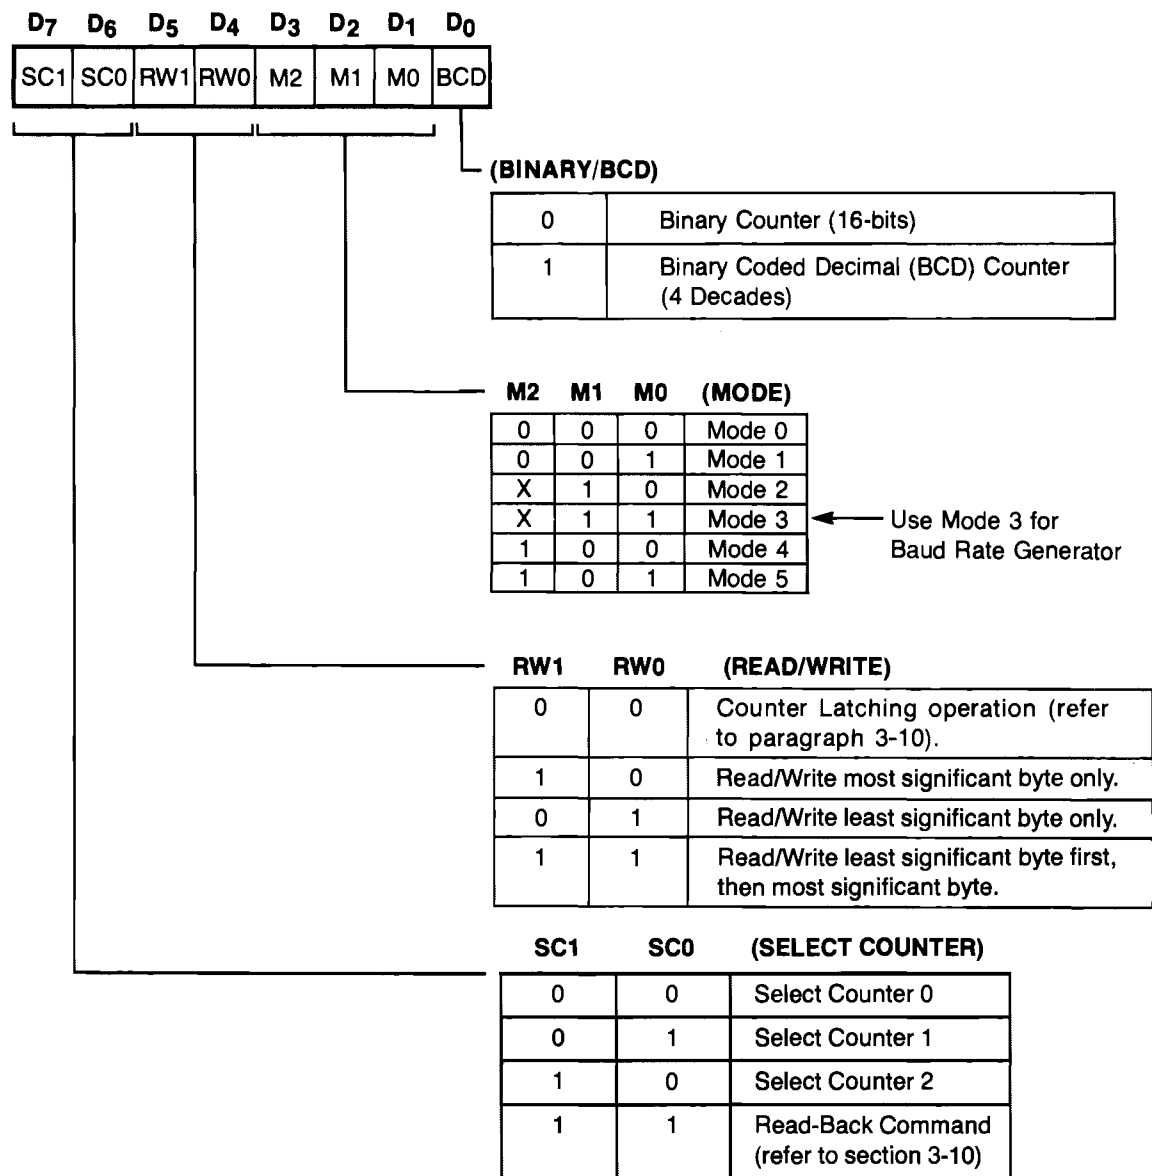

Figure 3-1. PIT Mode Control Word Format
- a. A mode control word (figure 3-1) is written to the control register for each individual counter.
The mode control word (figure 3-1) does the following:
Before you can use a counter, it must be programmed for mode and count. The mode can be programmed at any time with the Mode Control Word (figure 3-1). This word specifies which counters are selected, what their mode is, and the type of count byte which will subsequently be sent.
Notice that the Read/Write sequence specified by the Mode Control Word with the RW bits (figure 3-1) *must* be followed when these bytes are sent to the PIT. These bytes do not necessarily have to follow the associated Mode Control Word. For example, if you select RW1 = 0 and RW0 = 1, indicating Read/Write *least* significant byte only, your desired
The count mode selected in the control word controls the counter output. As shown in figure 3-1, the PIT device can operate in any of six modes:
- a. Write mode control word for Counter 0 to 0DFH. Note that all mode control words are written to 0DFH, since the mode control word must specify which counter is being programmed. (Refer to figure 3-1). Table 3-6 provides a sample subroutine for writing a mode control word for Counter 0.